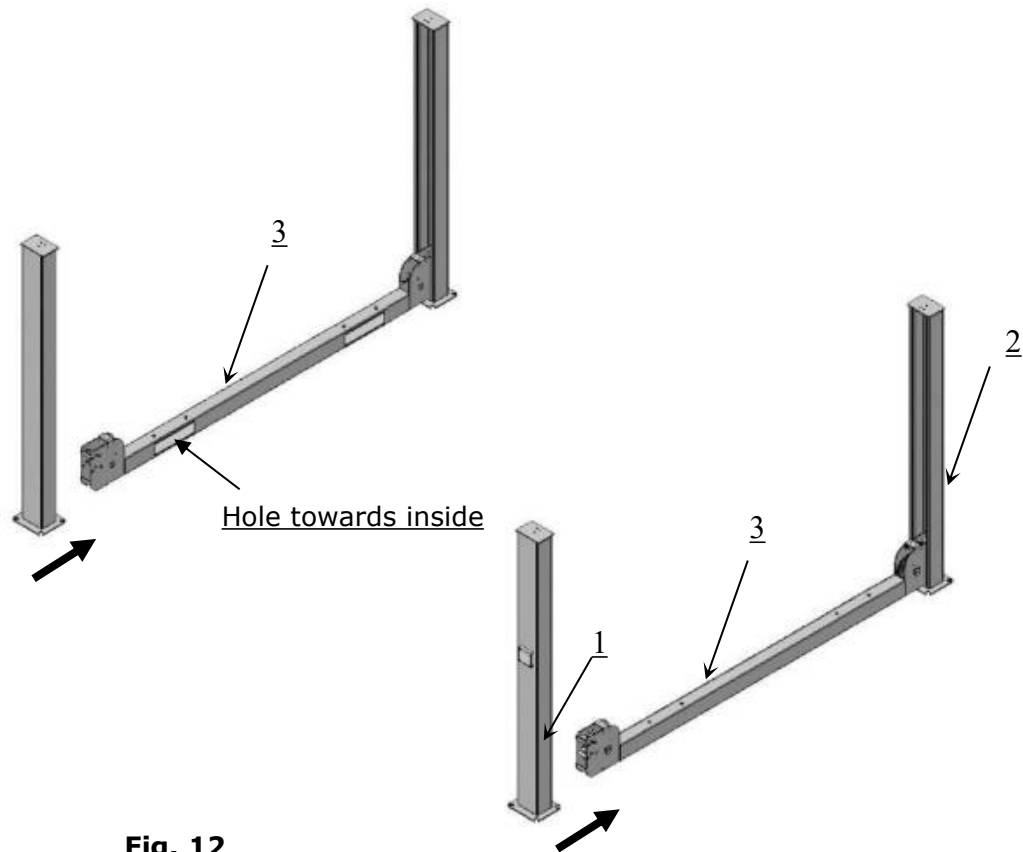

Fig. 12
D. Install cross beams (See Fig. 12).